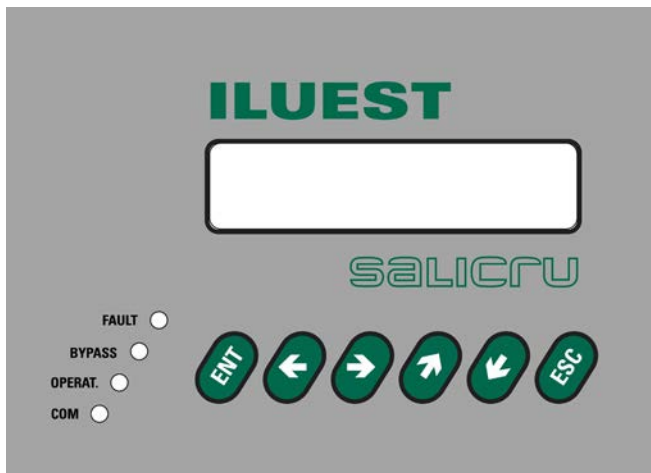

Fig. 24. Control panel with LCD.
(12) Control panel with LCD (see figure 24).
Led optical indicators (see figure 24).
Figure 24 shows the layout of the led optical indicators included in the control panel with LCD, and they are turned on when their function are activated.